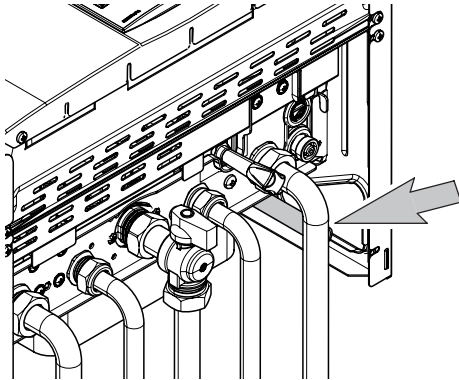

Figure 5.4
- Connect the safety valve discharge to a discharge funnel Figure 5.4.